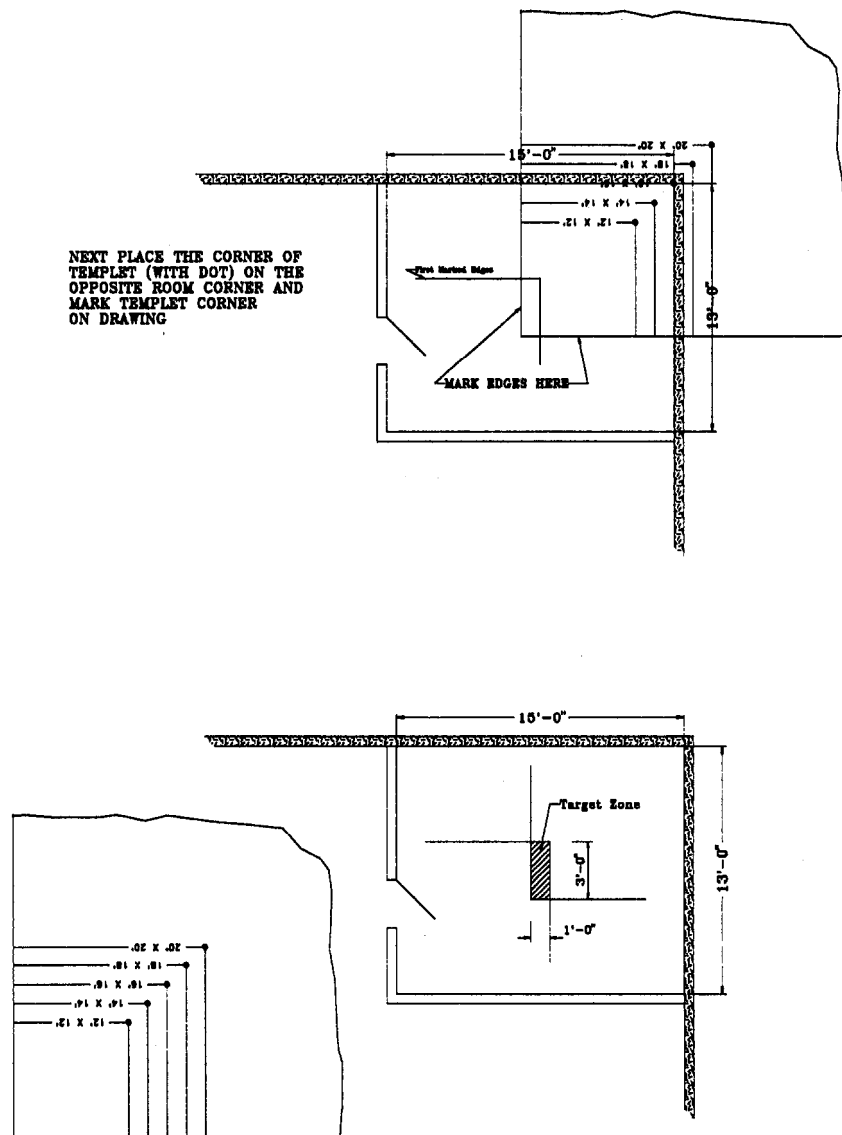

Figure 9
- Place the scale on the diagonally opposite sides of the room with the dot in the corner, as shown in Figure 9. Trace the corner of the scale edges onto the drawing.